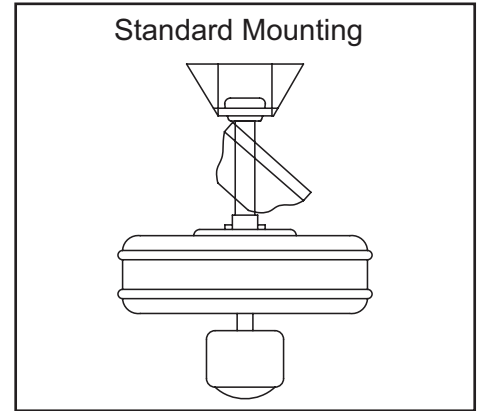

Figure 6
4. Carefully lift the assembly up to the ceiling mounting plate. If using close-to-ceiling mounting, hang the fan on the hook provided by utilizing one of the holes at the outer rim of the ceiling canopy (Figure 6). Seat the hanger ball in the mounting plate socket. Make sure the tab on the mounting plate socket is properly seated in the groove in the hanger ball (Figure 6).
THE HOOK AS SHOWN IN FIGURE 6 IS ONLY TO BALANCE FAN WHILE ATTACHING WIRING. FAILURE TO HANG AS SHOWN IN FIGURE 6 MAY RESULT IN HOOK BREAKING CAUSING THE FAN TO FALL. HOOK MUST PASS MUST PASS FROM INSIDE TO OUTSIDE OF CANOPY.